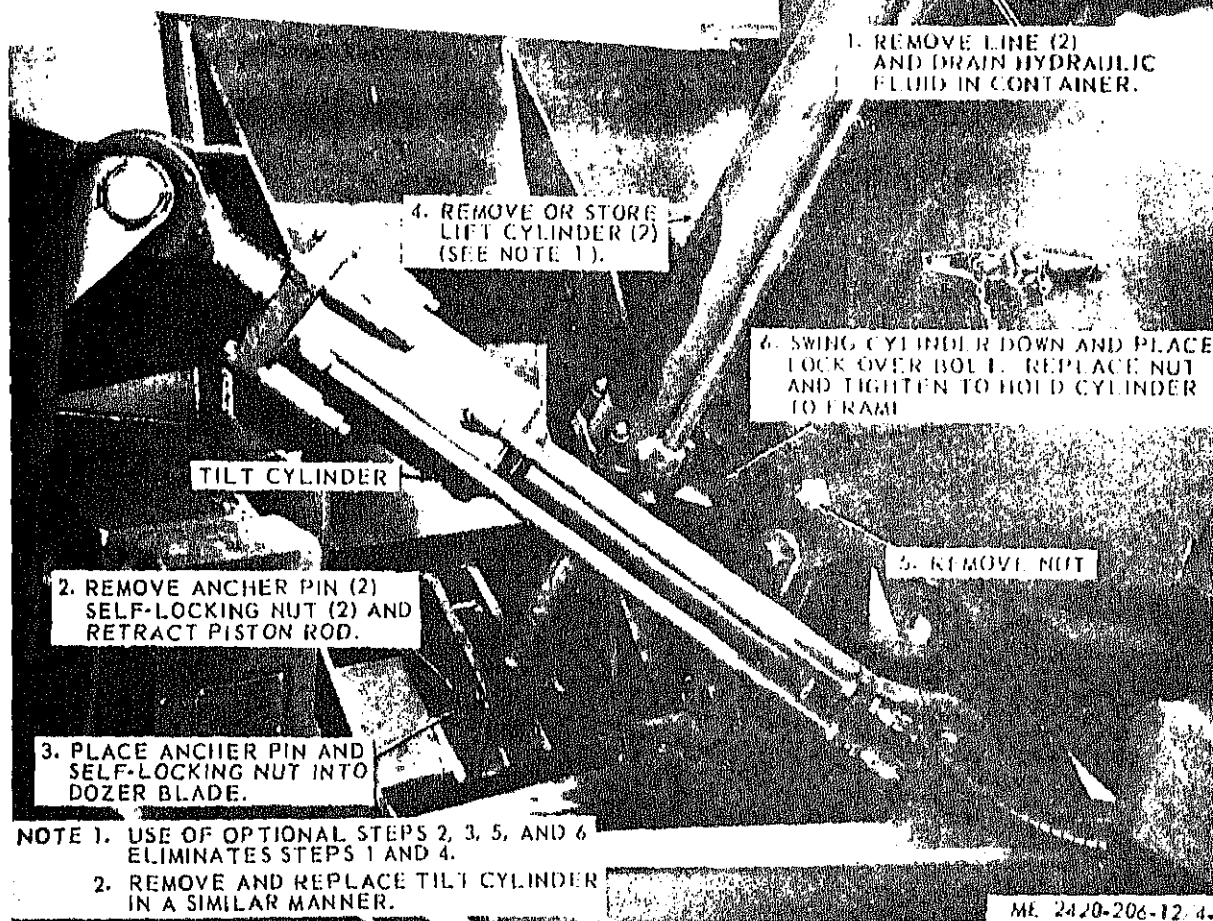

Figure 4-5. Bulldozer lift and tilt cylinder, removal,
a. *Removal and Disassembly.* Remove and disassemble bulldozer lift and tilt cylinders as illustrated in figure 4-5.
(1) Clean parts and dry thoroughly.
(2) Inspect for wear, cracks, breaks and damage. Replace defective parts as necessary. Install wear ring assembly, preformed packing and seals.
c. *Reassembly and Installation.* Reassemble and install bulldozer lift and tilt cylinders as illustrated in figure 4-5. Lubricate interior of cylinder, rings, and piston.